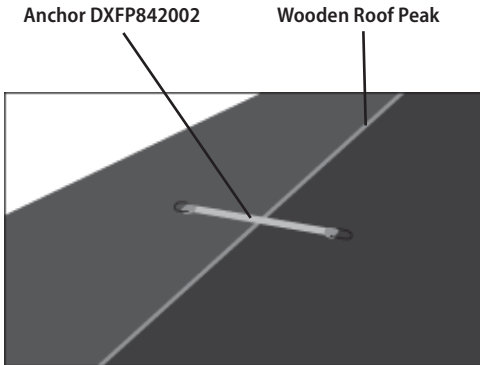

Fig. 1
- **Place the anchor plate to match the surface it will be mounted on, either a roof peak or flat surface. Refer to fig.1.**